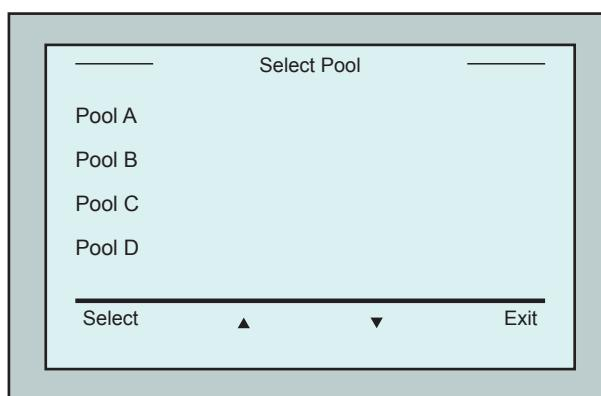

Figure 9: Pool Profile screen
2. From the Wave screen, press **Pool A**. The *Pool Profile* screen opens (Figure 9).